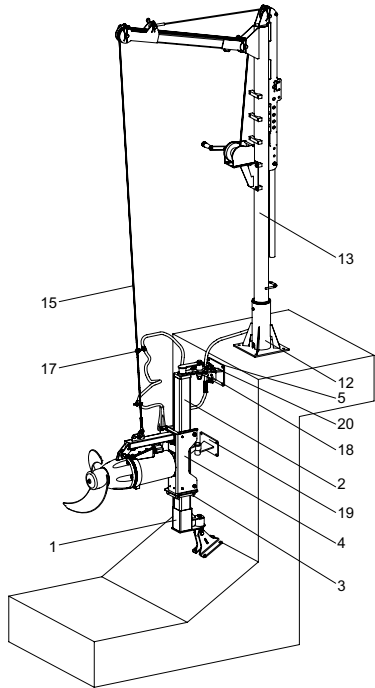

Fig. 6 SMD and SMG mixer installed on column profile
- motor bracket for mounting on column profile tube. See fig. 6.
Position numbers in figs 6 to 10
See fig. 6.
6. Depending on the length of the column profile, weld the turnable part of an intermediate fixation bracket (19, fig. 6) to the column profile.
12. Fasten the depth blocker (3) in the right position.
13. Drill the holes for the anchor bolts for the crane foot (12, fig. 6).